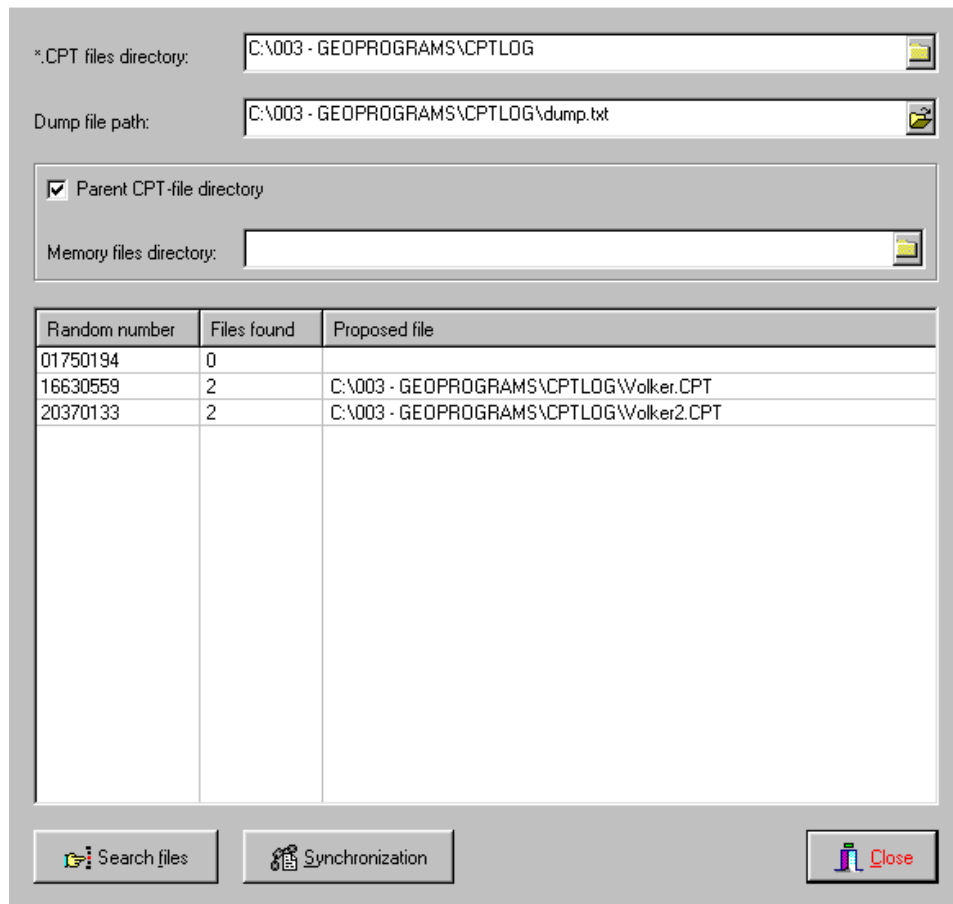

Fig. 5-2: Synchronization menu for specifying the file directories
6. After the read out has been completed the "Synchronization menu" window appears (Fig. 5-2). During synchronisation of DUMP.TXT with the data recorded on surface *_m.CPT files will be created which takes only a few seconds.